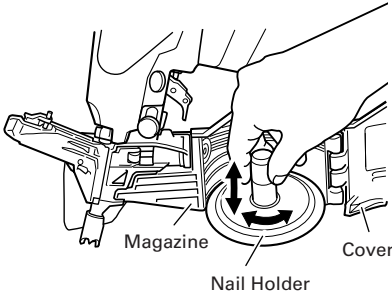

Fig. 2
- Adjust the position of the nail holder according to the length of the nail. (Fig. 2)